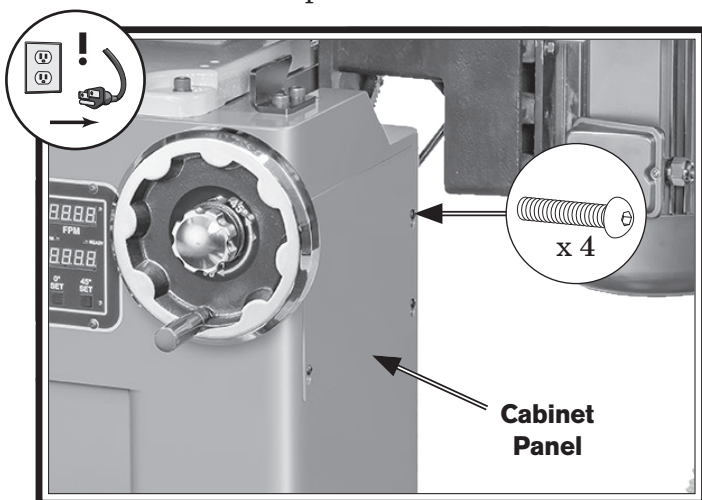

Figure 49. Location of cabinet panel and screws.
3. Loosen (4) screws shown in **Figure 49** and remove cabinet panel.